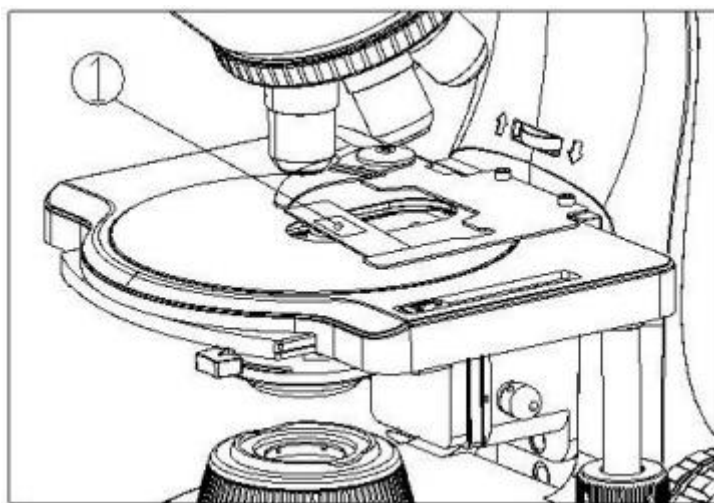

Figure 35
2. Place a drop of oil ① on the specimen to be observed (see Fig. 35).